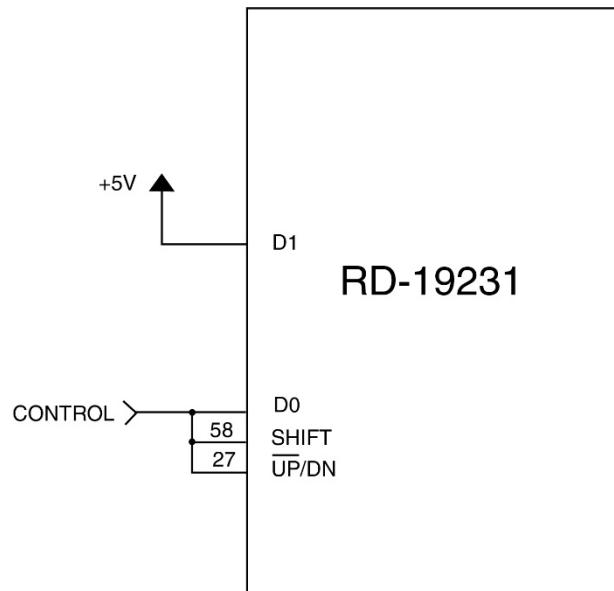

Figure 23. Input Wiring – Switching on the Fly Between 14 and 16 Bit Resolution
3. The UP /DN line programs the gain of the precharged components/amplifier. If the resolution is increasing (UP /DN logic 0), the gain of the precharge amplifier is set to four. If the resolution is decreasing (UP /DN logic 1), the gain of the precharge amplifier is set to 1/4. The gain of the precharge amplifier should be programmed prior to switching the resolution of the converter, allowing enough time for the components to settle to the precharged level. This time will depend on the time constant of the bandwidth components being charged. If switching is limited to two adjacent resolutions (e.g., 14 and 16) then the precharge amplifier can be set up to continuously maintain the appropriate velocity voltage on the deselected components, resulting in the fastest possible switching times. See Figure 23 for an example of the input wiring connections necessary for switching on the fly between 14 and 16 bit resolution.
Note: The encoder resolution must be less than or equal to the resolution of the parallel data outputs. Refer to Figure 23.